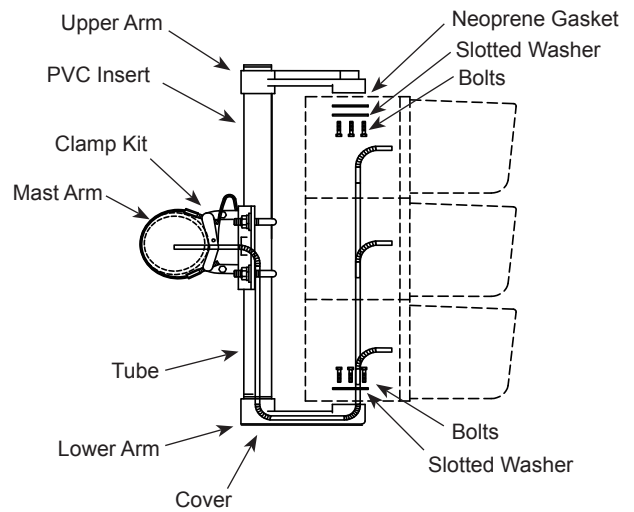

Figure 3
11. Position the lower arm centered on the signal with the tube channel in the back. Using the hardware kit(s) without the neoprene gasket(s), mount the arm to bottom of the signal(s). Torque the bolts to 6 ft-lb. DO NOT OVERTIGHTEN. (Figure 3).
13. Slide the upper arm(s) down over the top of the tube and secure to the signal(s) using the hardware kit(s) with the rubber gasket(s). (Figure 3)
17. Route the wiring through the tube, through the lower arm, and to the signal connections. (Figure 3)